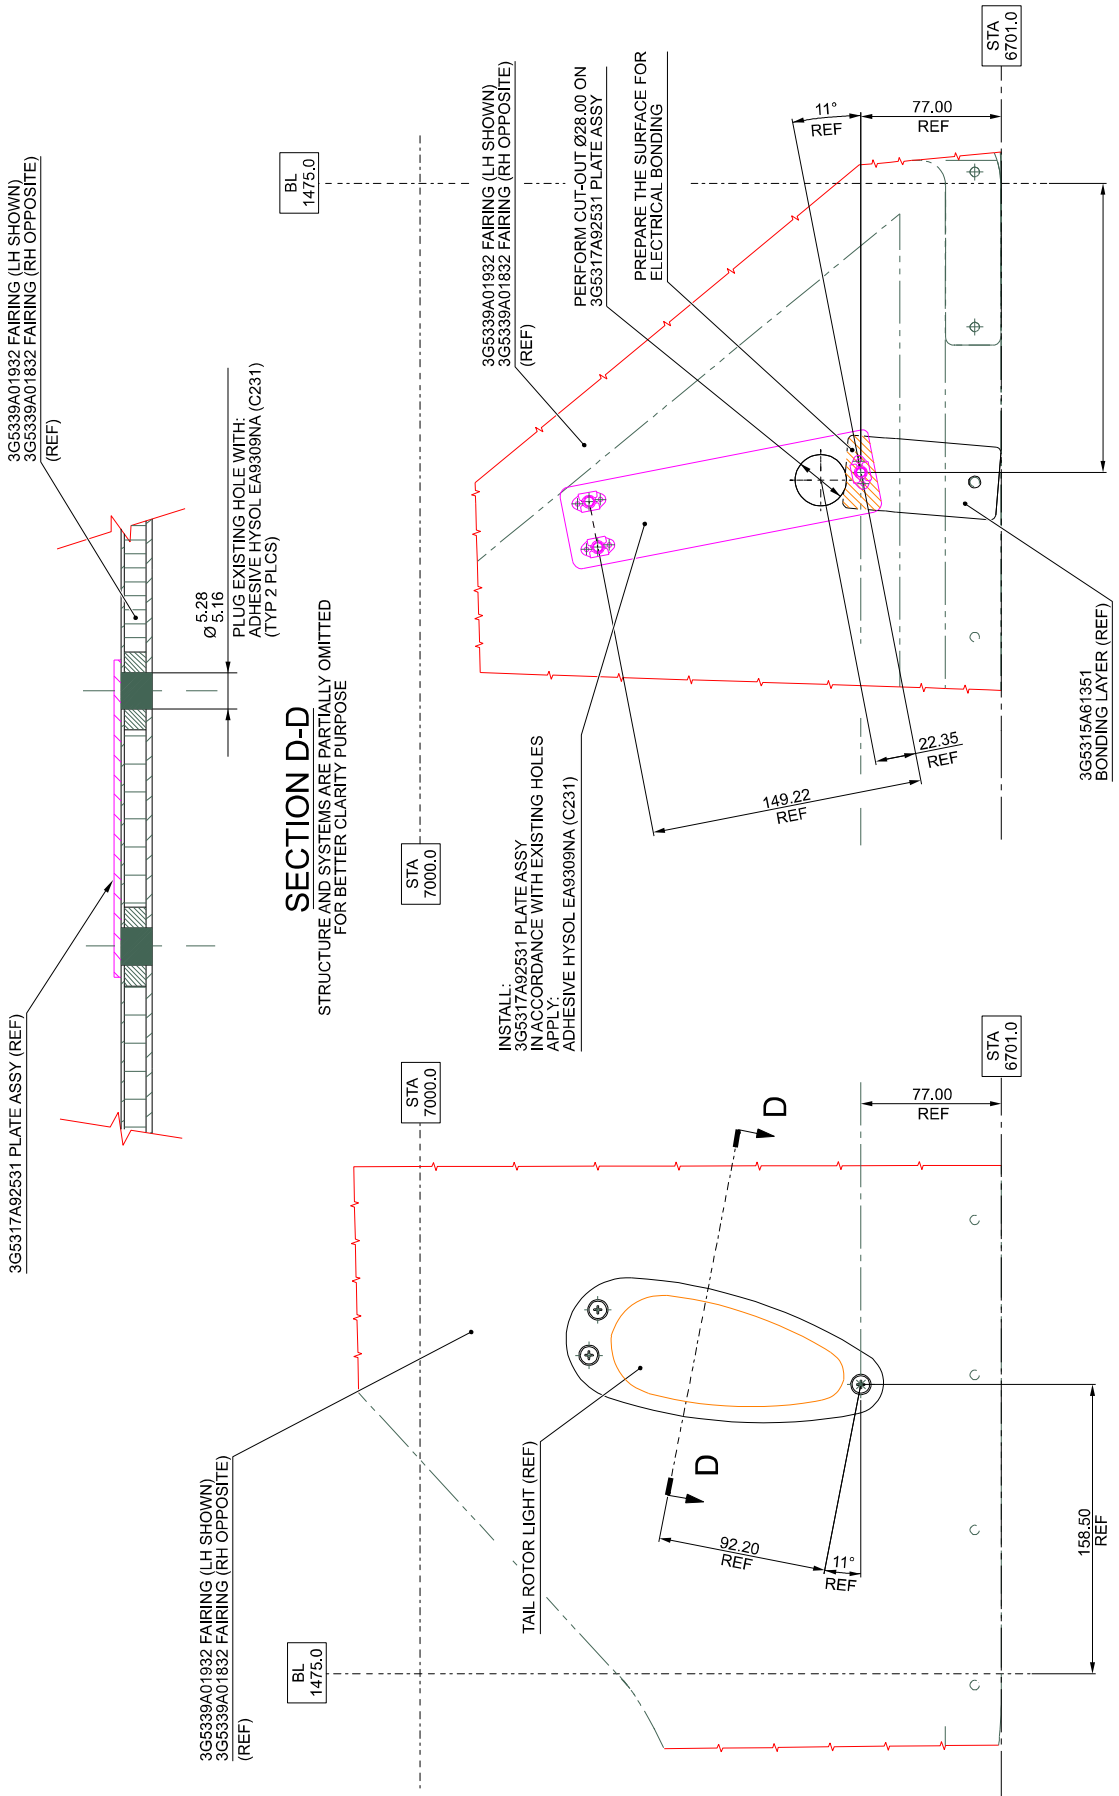

Figure 4
2. In accordance with AMP DM 39-A-06-41-00-00A-010A-A and with reference to Figure 1 thru Figure 4, remove all external panels as required to gain access to the area affected by the installation and perform the tail rotor lights retromod P/N 3G3340P02011 as described in the following procedure:
- 2.1.4 With reference to Figure 4 Section D-D, plug the n°2 existing holes on the LH fairing P/N 3G5339A01932 by means of adhesive EA9309.3NA (C231).
- 2.1.6 With reference to Figure 4 Section C-C, perform the cut-out \varnothing 28.00 on the LH plate assy P/N 3G5317A92531 in accordance with the dimensions shown.
- 2.1.7 With reference to Figure 4 Section C-C, prepare for electrical bonding the mating surfaces of the LH plate assy P/N 3G5317A92531 and the bonding layer P/N 3G5315A61351.
- 2.1.8 With reference to Figure 4 Section C-C, install the plate assy P/N 3G5317A92531 on the LH fairing P/N 3G5339A01932 by means of adhesive EA9309.3NA (C231) in accordance with the dimensions shown.
- 2.1.12 With reference to Figure 4 Section D-D, plug the n°2 existing holes on the RH fairing P/N 3G5339A01832 by means of adhesive EA9309.3NA (C231).
- 2.1.13 With reference to Figure 4 Section C-C, perform the cut-out Ø 28.00 on the RH plate assy P/N 3G5317A92531 in accordance with the dimensions shown.
- 2.1.14 With reference to Figure 4 Section C-C, prepare for electrical bonding the mating surfaces of the RH plate assy P/N 3G5317A92531 and the bonding layer P/N 3G5315A61351.
- 2.1.15 With reference to Figure 4 Section C-C, install the plate assy P/N 3G5317A92531 on the RH fairing P/N 3G5339A01832 by means of adhesive EA9309.3NA (C231) in accordance with the dimensions shown.